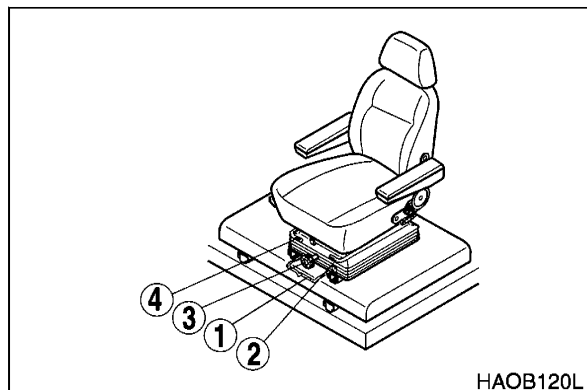

Figure 68
3. WEIGHT ADJUSTMENT KNOB (FIGURE 68)
4. BACKREST ADJUSTMENT LEVER (FIGURE 68)